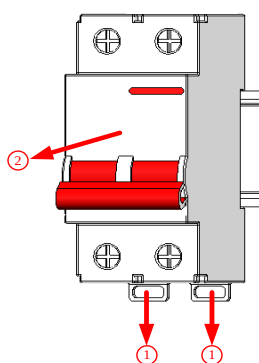

Figure 17.2.1 Circuit Breaker Replacement
- Use a screwdriver to force down to empty the bottom contacts and then remove the empty contacts. The replacement method is shown in Figure 17.2.1.